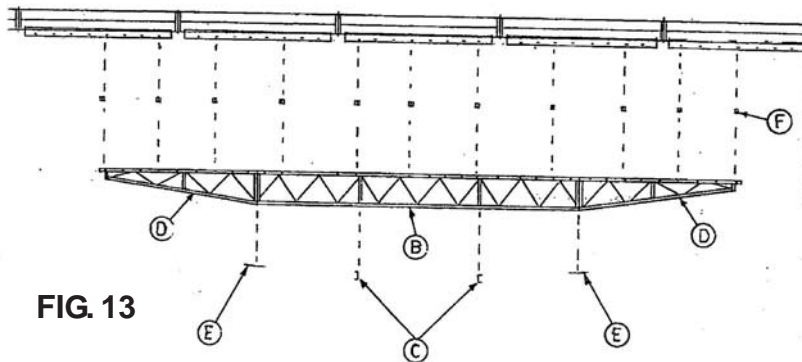

FIG. 13
3. See Fig. 13 for proper size and location of trusses required for assembly. 20' trusses are identical. Tapered trusses (9' 5-1/2" long) are made with two right and two lefts. Connect both tapered trusses (D) and main truss (B) end vertical angles together with three 3/8" x 1" hex head bolts, lock washers and nuts (12 required). Tighten these bolts now. **NOTE:** Leave all other bolts loose until complete truss is assembled to trunk sections.
4. Position truss sides as shown in Fig. 13. Align holes of the truss sides to mounting plate on trunk section and bolt together using 3/8" x 1" hex head bolts, flat washers (2 per bolt), lock washers and nuts (42 required).
6. Connect both main trusses (B) together at bottom of both vertical angles (except angles under connecting plates) using two cross braces (4" x 13" on Model 50 or 4" x 17" on Model 85) (C) and four 3/8" x 3/4" long hex head bolts, lockwashers and nuts per cross brace.
7. Attach lower connecting plates (E) (On Model 50 - 13" x 13-1/2" or On Model 85 - 13" x 17-1/2") to bottom of tapered truss and main truss sides where end vertical angles have been joined together. See Fig. 13. Use eight 1/2" x 1-1/4" hex head bolts, lockwashers and nuts to secure each lower connecting plate in place.